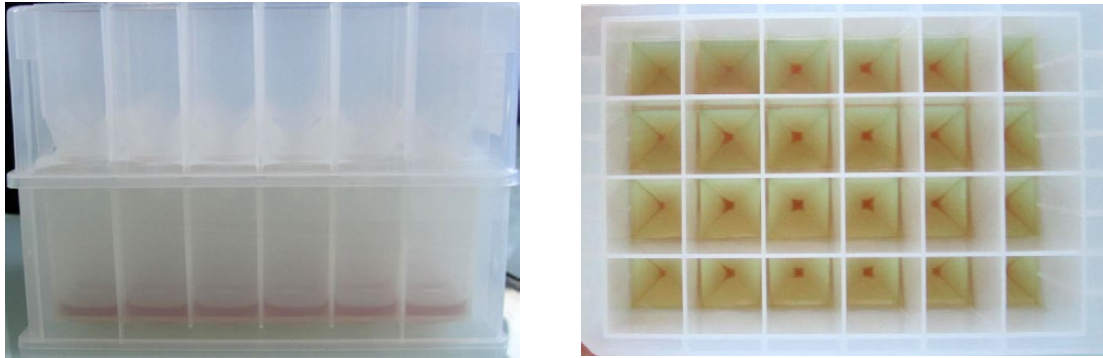

Fig. 1. Plates after centrifugation.
4. Completely discard the supernatant, taking care not to disturb the pellet. Aspects of the pellet may differ, depending on localization in the plate. See Figure 1, which shows plates after centrifugation.